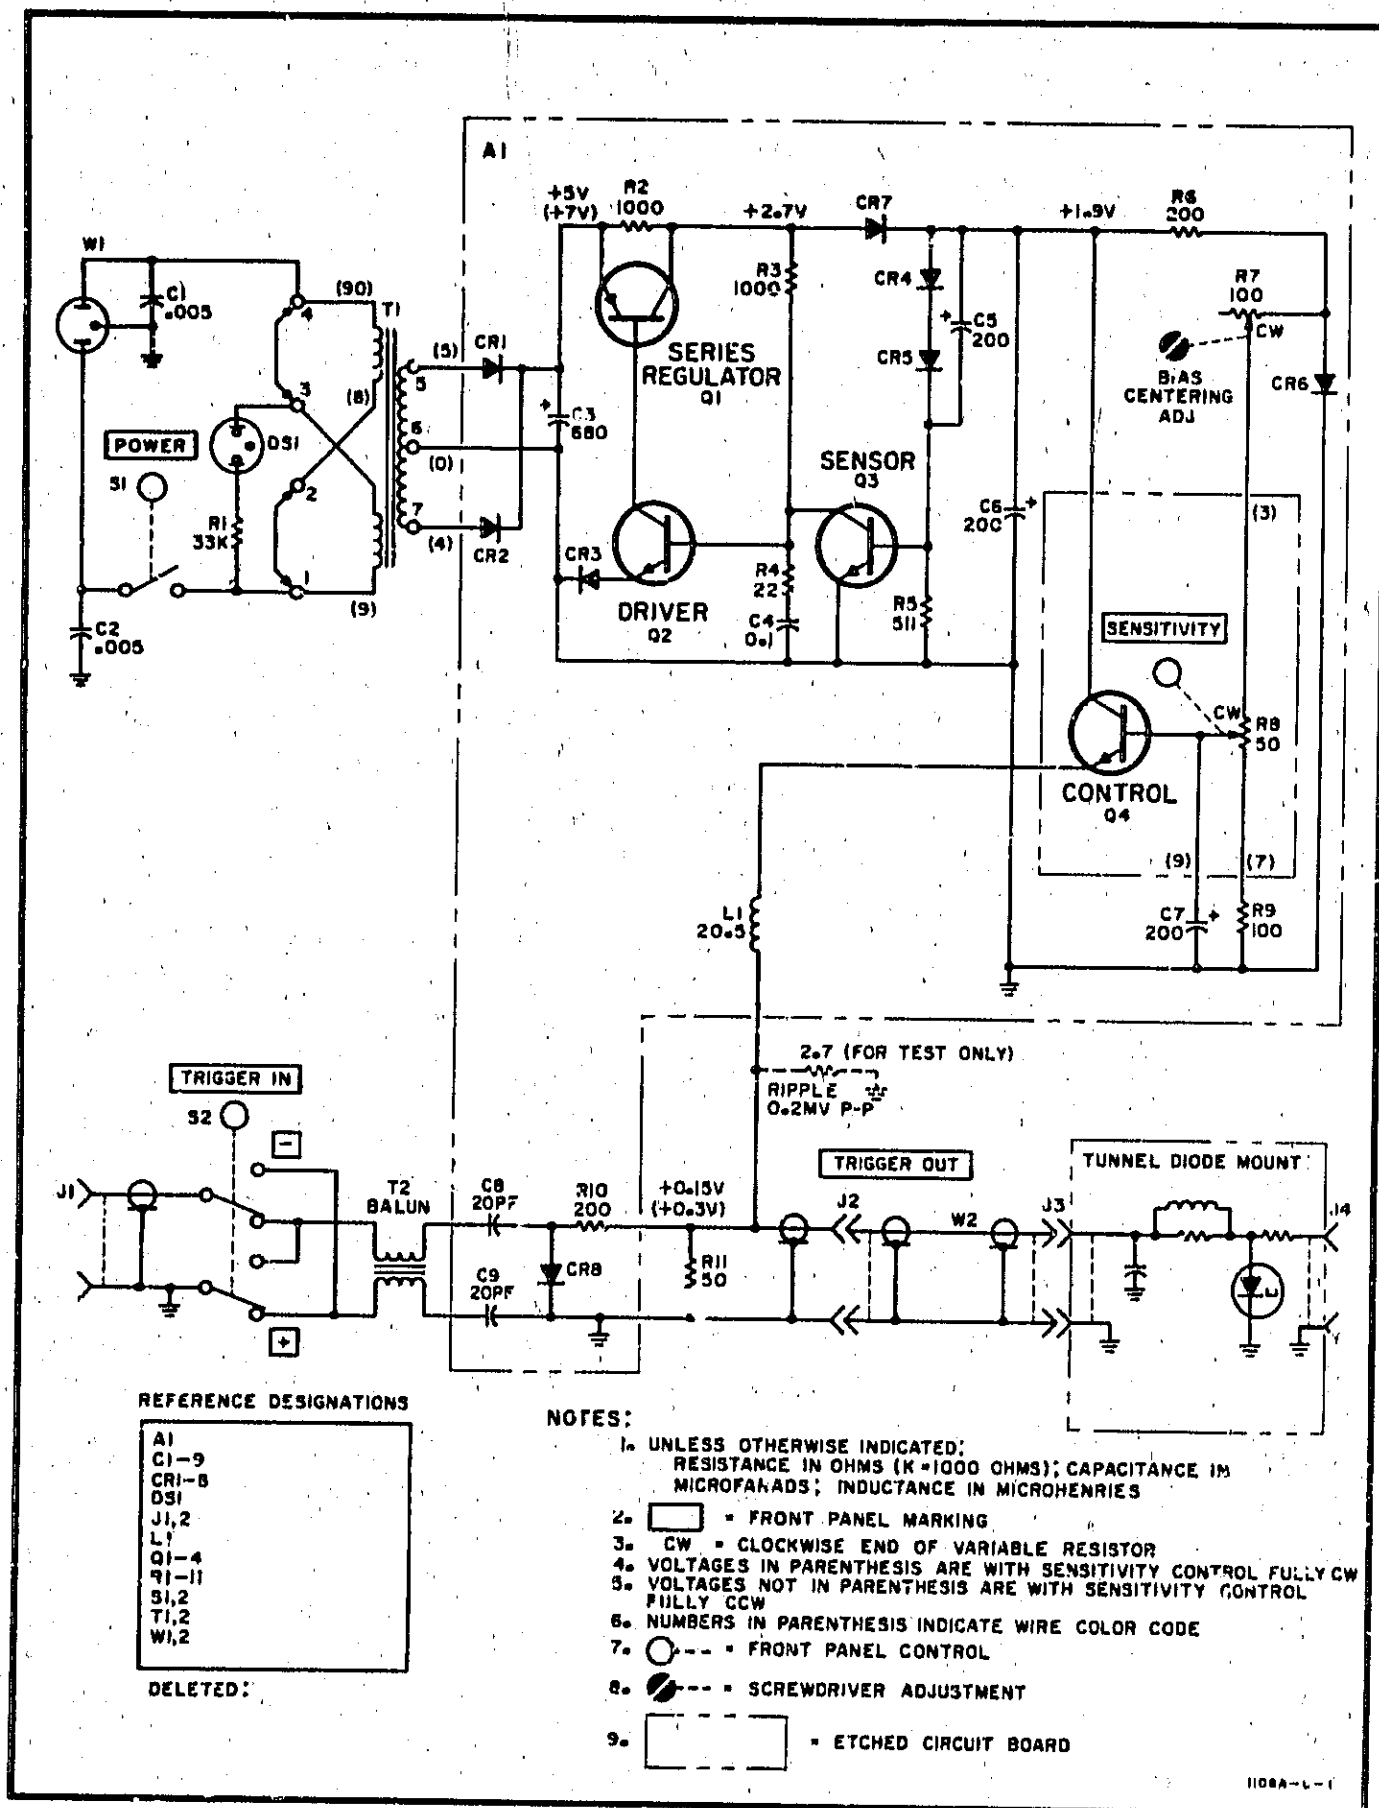

Figure 12. Schematic
40. If there is no pulse output from the Model 1105A/Tunnel Diode Mount, check circuit voltages using a VTVM. Perform the voltage checks with the Tunnel Diode Mount disconnected and a 2.7 ohm resistor connected across the Model 1105A TRIGGER OUT connector (J2). Refer to the schematic (Figure 12) for test points and typical dc voltage values. Voltages in parenthesis are with the SENSITIVITY control fully clockwise. Voltages not enclosed in parenthesis are with the SENSITIVITY control fully counterclockwise.